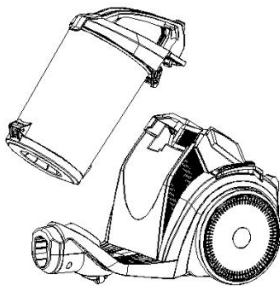

Fig.6
1. Fig.6 - hold the dust cup and handle and push the release button at the top of the canister.